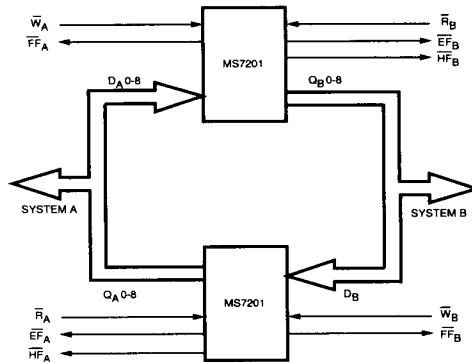

Figure 6. BiDiRectional FIFO Mode
Data buffering between two systems can be achieved by pairing two FIFO arrays as shown in Figure 6. This allows each system to READ and WRITE shared data. The FULL FLAG (FF) must be monitored on the FIFO where WRITE ENABLE (W) is used and the EMPTY FLAG (EF) must be monitored on the FIFO where READ ENABLE (R) is used. Both Width Expansion and Depth